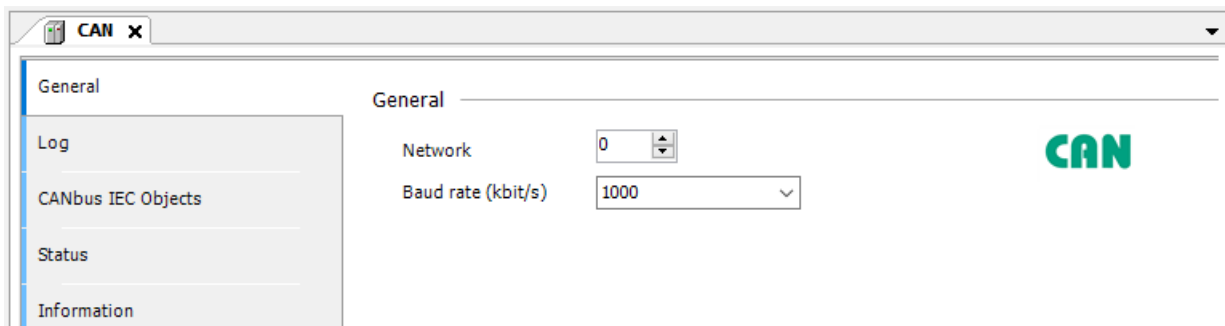

Figure 6.7: CAN default settings.
- Open the **CAN** device settings, on the **General** tab, set the page options as shown in Figure 6.7.